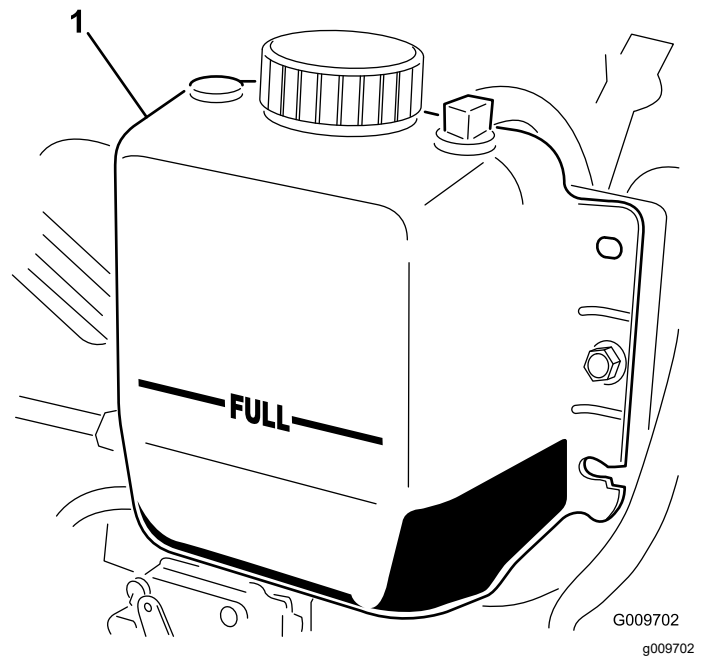

Figure 110
3. Check the coolant level in the radiator. The radiator should be filled to the top of the filler neck and the expansion tank filled to the FULL mark (Figure 110).